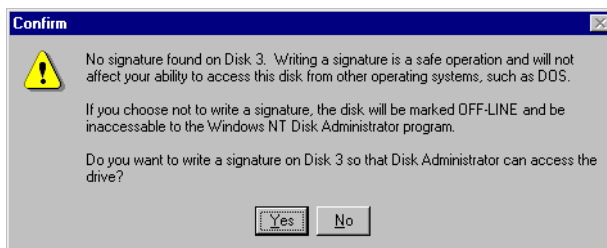

Figure 45. Windows NT disk signature confirmation warning
- c. For each network storage space linked to the Integrated Netfinity Server, you receive a message similar to the example in Figure 45. Click **Yes** for each message.